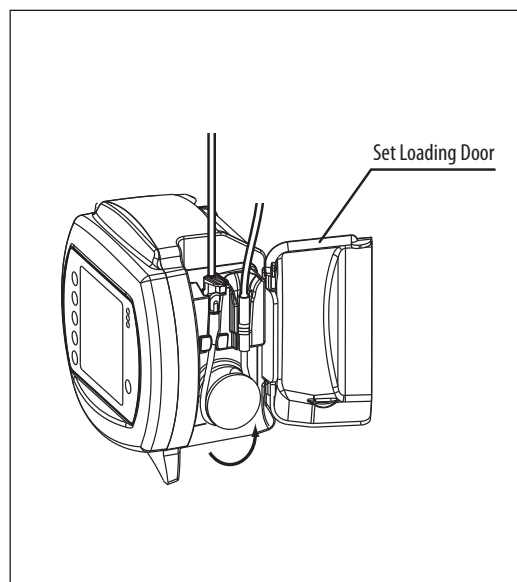

Figure 6B.
3. Grasp the MISTIC retainer end (black ring retainer) and wrap the tubing counterclockwise around the rotor. **Avoid overstretching the silicone tubing. (Figure 6B)**
4. Carefully pull the MISTIC retainer end upwards to position it over the slot on the right, and then lower the retainer into the slot. (Figure 6B)